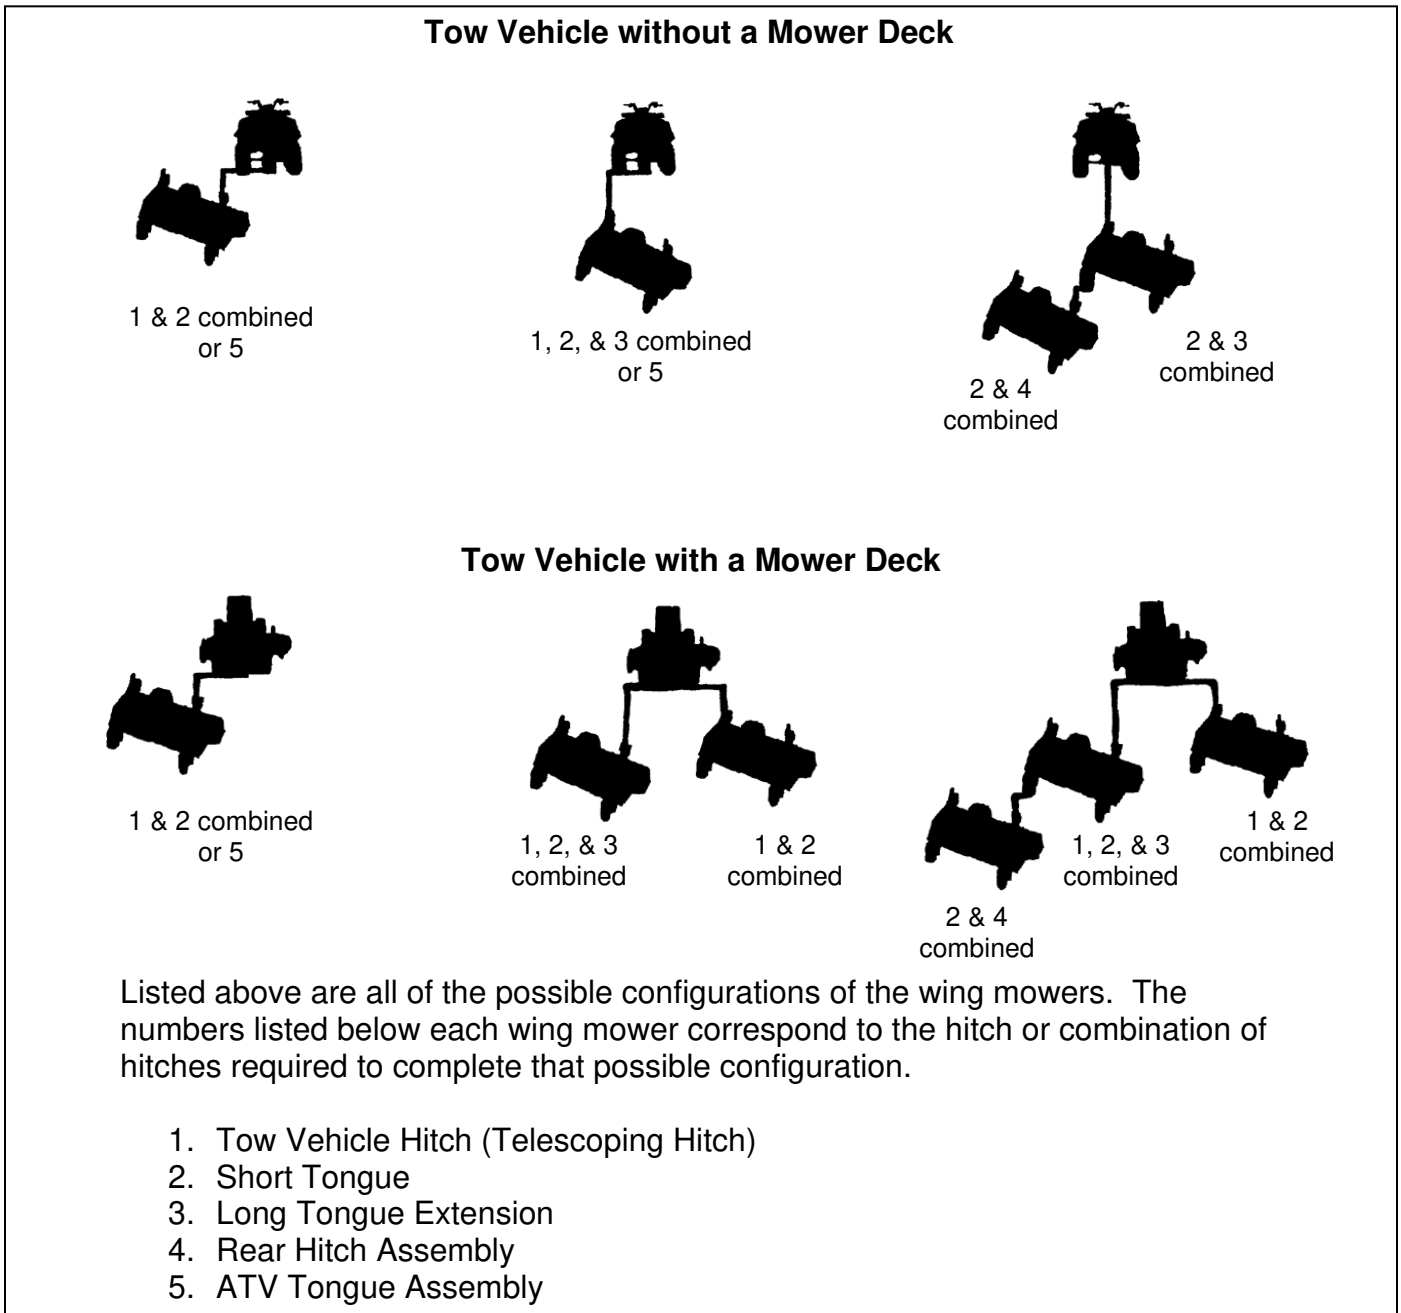

Figure 5: Wing Mower Towing Suggestions and Required Hitches
B. HITCH CONFIGURATIONS (Refer to Figure 5)
C. ATV TONGUE CONFIGURATIONS (Refer to Figure 5)